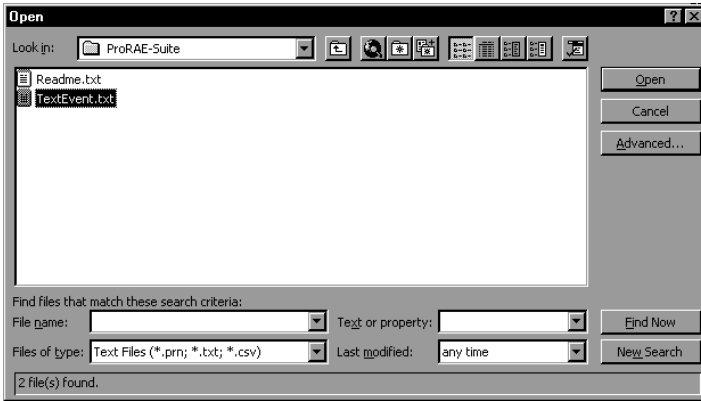

Figure C-2 Open Dialog Box
- Click the **File->Open** menu item to open the **Open** dialog box, select the folder where the file **TextEvent.txt** resides, and select the **Files of type** as **Text Files**. Click to select the file **TextEvent.txt**, as shown in Figure C-2.